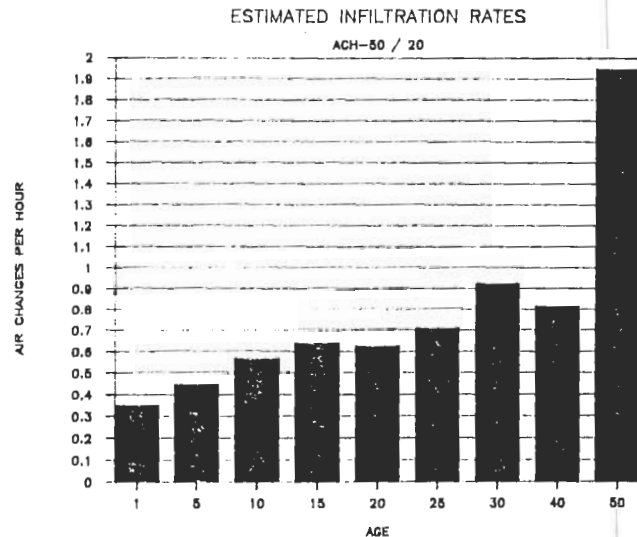

Figure 1
imperative that a house be viewed as a system. Extensive residential airtightness testing\* was conducted between May 1987 and May 1988, on 371 single family homes, ranging from 1 year to 50+ years old. An estimated infiltration rate (ACH-50 / 20) from .35 to 1.95 was recorded (figure 1); 11.6% of these homes were mobile homes, 11.6% were frame construction and the remaining 76.9% were concrete block structures (figure 2). It has been determined that pressure differences within the building envelope\* and across interior partitions of residential housing exists. The extent of airtightness of a residence can drastically effect this pressure difference within the building envelope. This testing has further revealed that one of the largest driving forces of air change rates in residential housing can be directly attributed to the operation of forced air ventilation systems. These factors can be major contributors to (1) excessive energy consumption, (2) poor thermal comfort, (3) degradation of building materials and (4) indoor air quality problems (i.e. homeowner